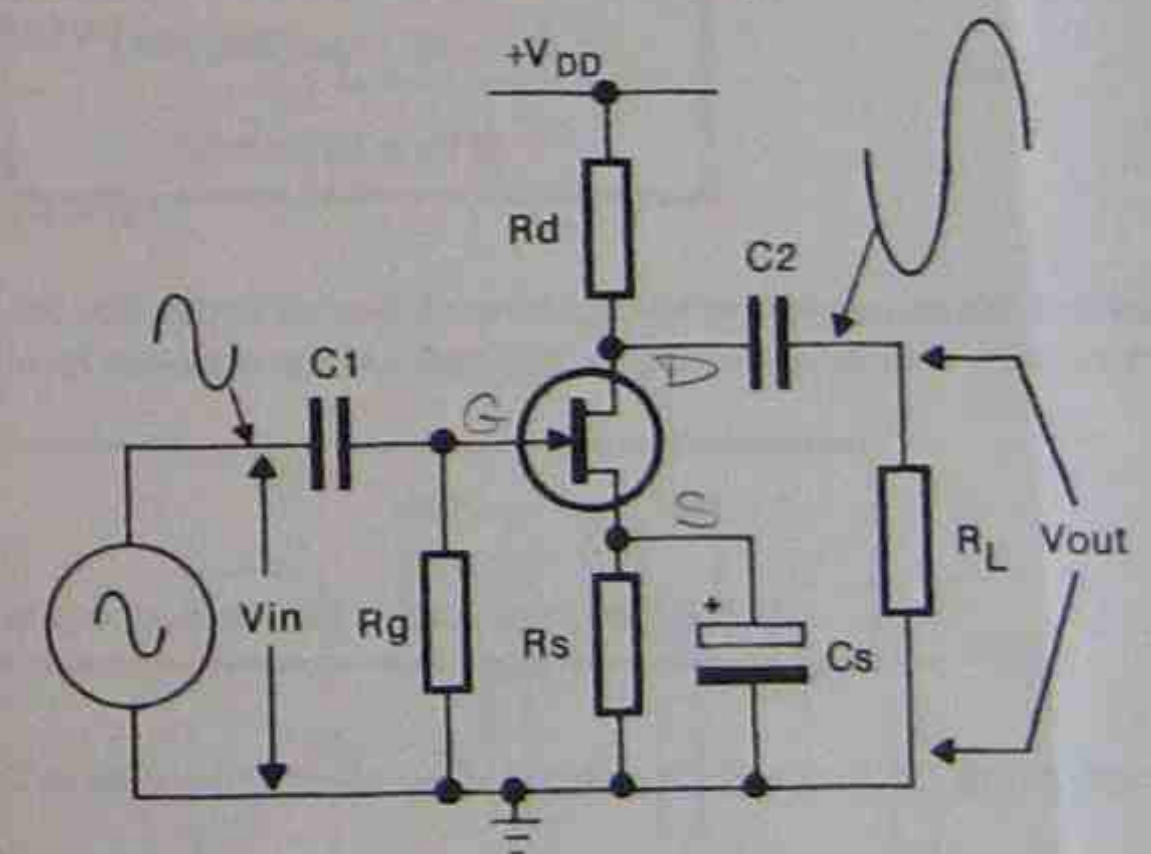

Fig.1: The JFET CS amplifier
The circuit of a JFET common source amplifier is shown in Fig.1. The DC conditions were described previously in which the gate-source junction is reverse biased by the positive voltage present at the source. The gate is at ground potential and the drain terminal should have a DC voltage around half the supply voltage.
- In Fig. 1, if V_{in} increases in the positive direction, the gate voltage will rise. The source voltage remains constant at a predetermined positive value as C_s bypasses any AC component. Because of this, the voltage difference between the gate and source drops, allowing more drain current to flow. This causes the voltage drop across R_d to rise and V_d drops. Thus the output signal swings in the negative direction when the input signal rises in the positive direction.